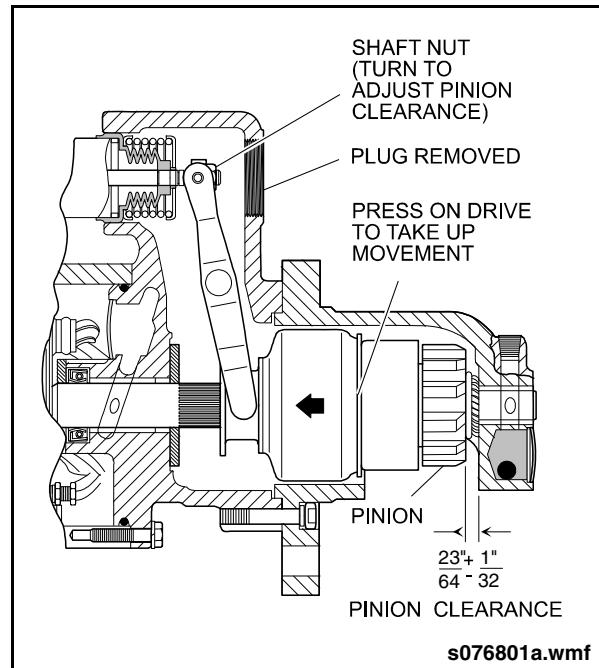

Fig. 9-44: Starter Motor Pinion Clearance Check
- Connect a battery to the solenoid. See "Fig. 9-44: Starter Motor Pinion Clearance Check" on page 64.